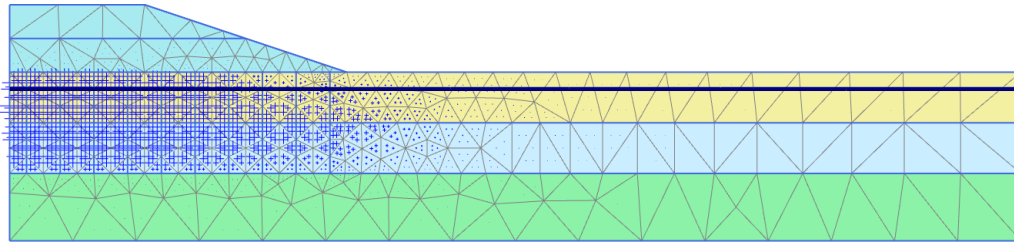

Figure 9-15: Excess pore pressures after undrained construction of embankment
- 2 Click the **Center principal directions** button . The principal directions of excess pressures are displayed at the center of each soil element. The results are displayed in Figure 9-15 \(p. 158\).
- 5 To show the **labels** of the contour lines on the soil profile click on the **Draw scanline** button  (or the corresponding option in the **View** menu). Then on the geometry make a line by clicking on an initial point and drag the line on the contours to be identified (Figure 9-15 \(p. 158\)).
By exploring the different phases, it can be seen that the settlement of the original soil surface and the embankment increases considerably during the **Phase 4**. This is due to the dissipation of the excess pore pressures (= consolidation), which causes further settlement of the soil. Figure 9-15 \(p. 158\) shows the remaining excess pore pressure distribution after consolidation. Check that the maximum value is below 1.0 kN/m^2 .